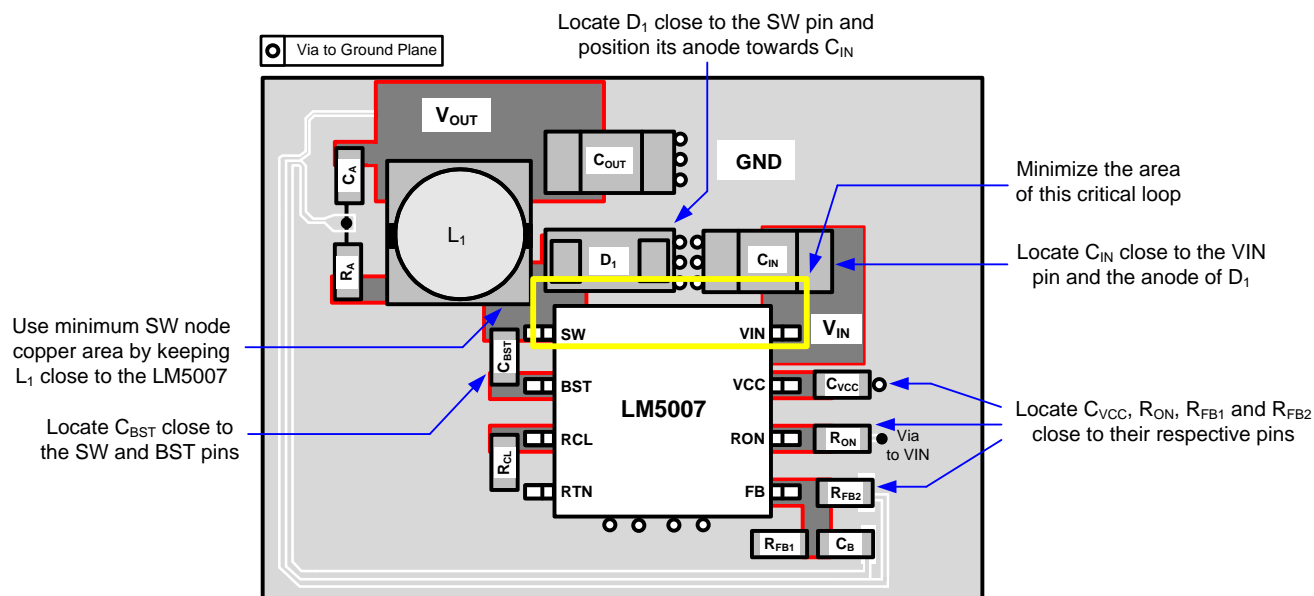

Figure 10. PCB Layout Example
1. Minimize the area of the high di/dt switching current loop consisting of the VIN and SW pins, freewheeling power diode, and input ceramic capacitor. Keep the input capacitor(s) close to the VIN pin of the LM5007. Place the cathode of the freewheeling diode close to the SW pin and its anode near the return terminal of the input capacitor as illustrated in Figure 10. Route a short, direct connection to the RTN pin using polygon copper pours under the IC.
It is critical to minimize switching loop parasitic inductance by locating the input capacitor close to the VIN pin of the LM5007. Also, place the freewheeling power diode near the SW pin with its anode adjacent to the input capacitor as shown in Figure 10.